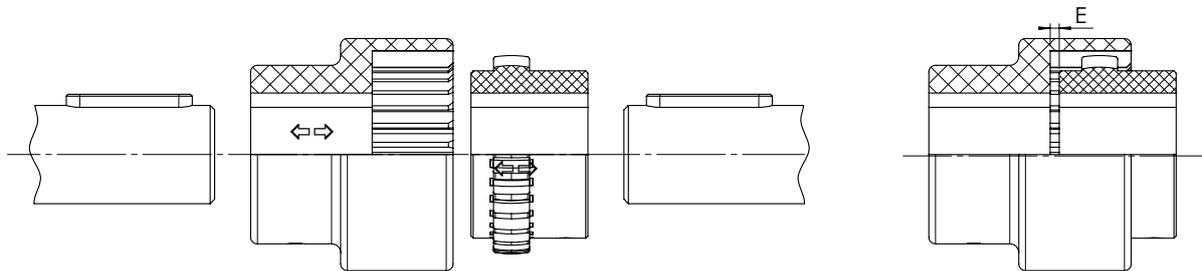

Figure 4-4 - SITEX® Nylex CV execution couplings mounting
- Move the motor and the driven equipment up to get the dimension E see FIGURE 4-4 - SITEX® Nylex execution CV: mounting and TABLE 4.2)